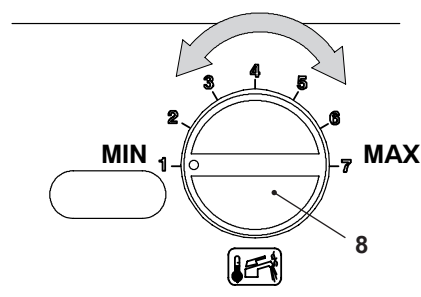

Figure 17.14
- Turn the hot water temperature adjustment knob 8 in Figure 17.14 to the minimum, the following will appear on the LCD display (the sequence **P09** alternates with **01**).